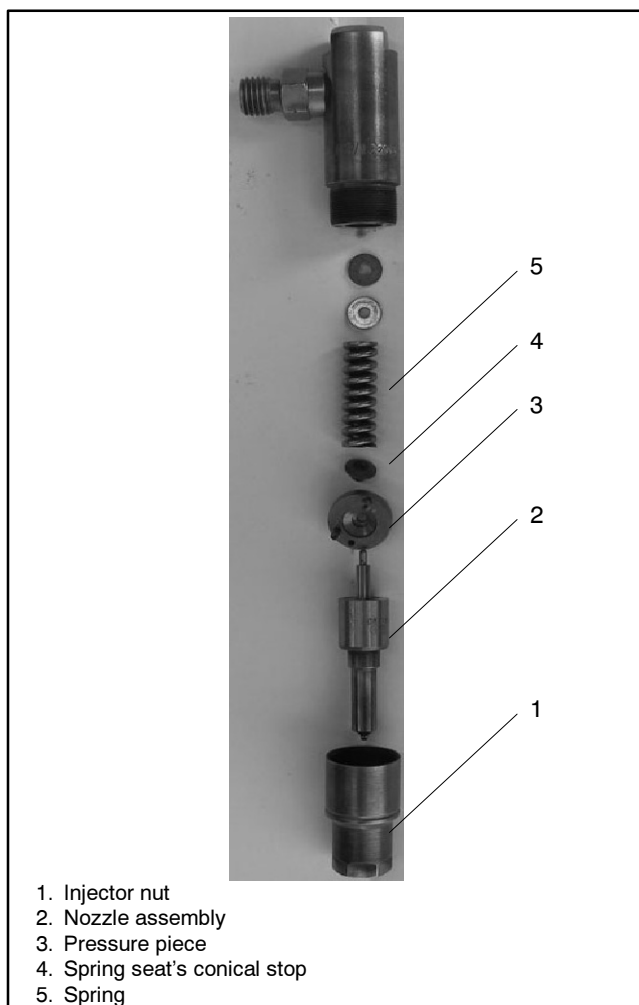

Figure 5-7 Injector Components
- b. Remove the nozzle assembly, pressure piece, spring seat's conical stop, spring, and shims. See Figure 5-7.